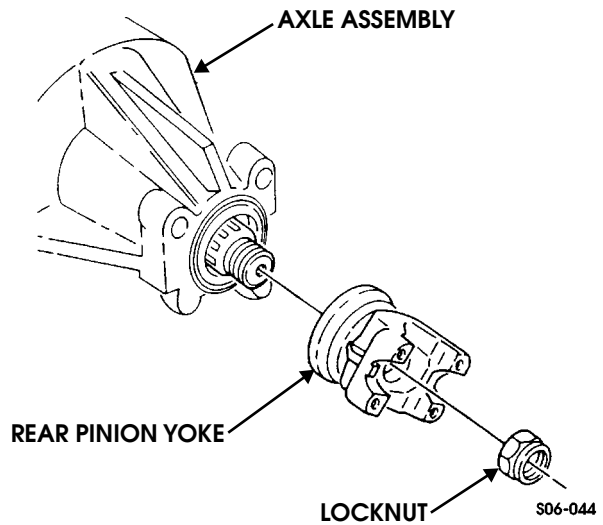

Figure 9-56: Pinion Yoke Removal
14. Remove locknut and rear pinion yoke from axle assembly (Figure 9-56).
1. Secure rear pinion yoke to axle assembly with locknut (Figure 9-56).